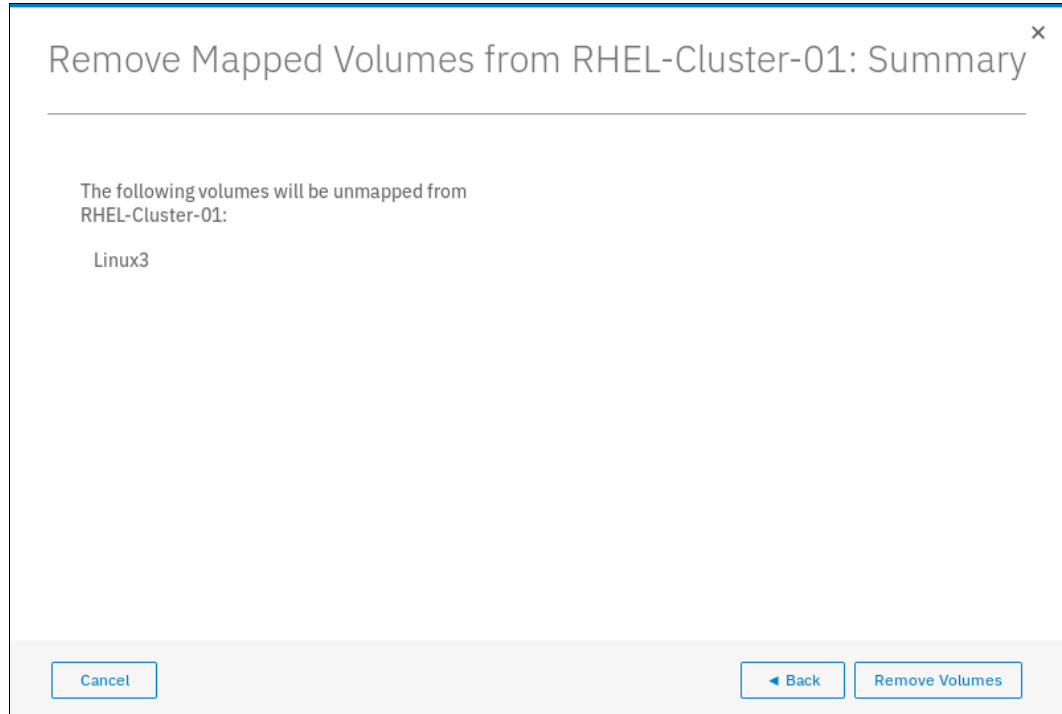

Figure 5-95 Volume unmap from host cluster
6. Click **Next**. A window opens, as shown in Figure 5-95.